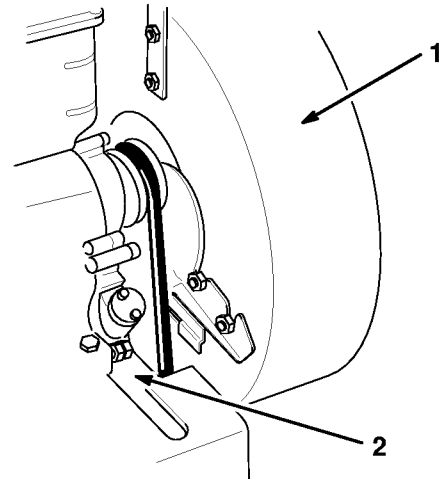

Figure 28
10. Insert the belt over the pulley and down through the opening and reinstall and secure the blower housing (Fig. 28).